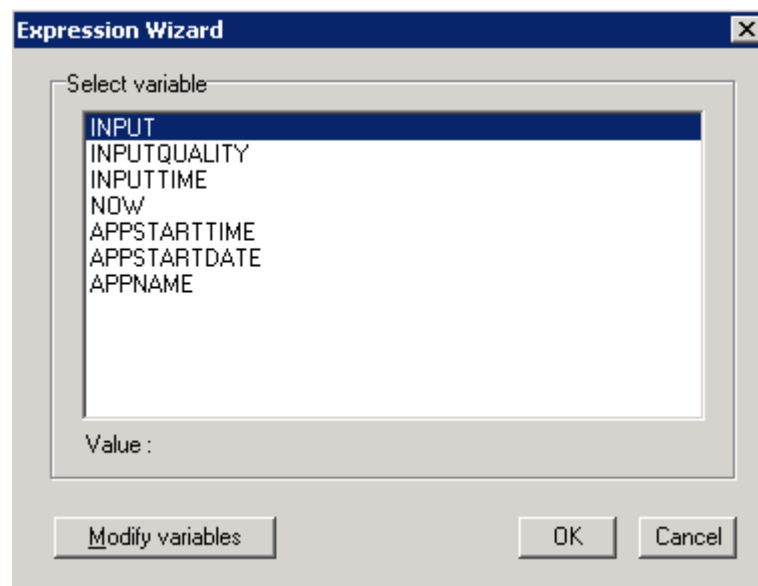

Figure 48 - Select Variable Window
11. Click on the **Variable** button to go to the **Select variable** (Figure 48) window. After selecting the required variable, click on the **OK** button to close the **Select variable** window and return to the **Expression Wizard**.